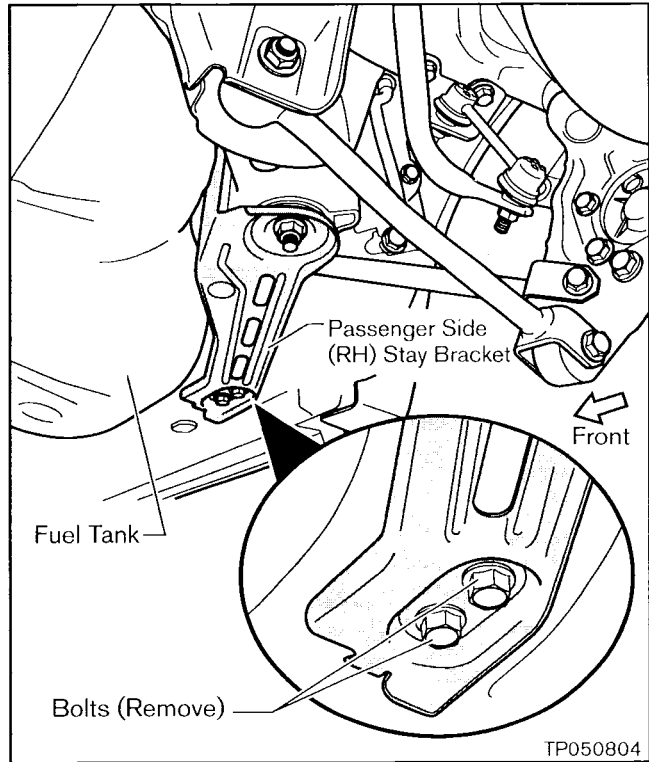

Figure A15
8. Remove the two front bolts from the right and left "stay" brackets (see Figure A15).